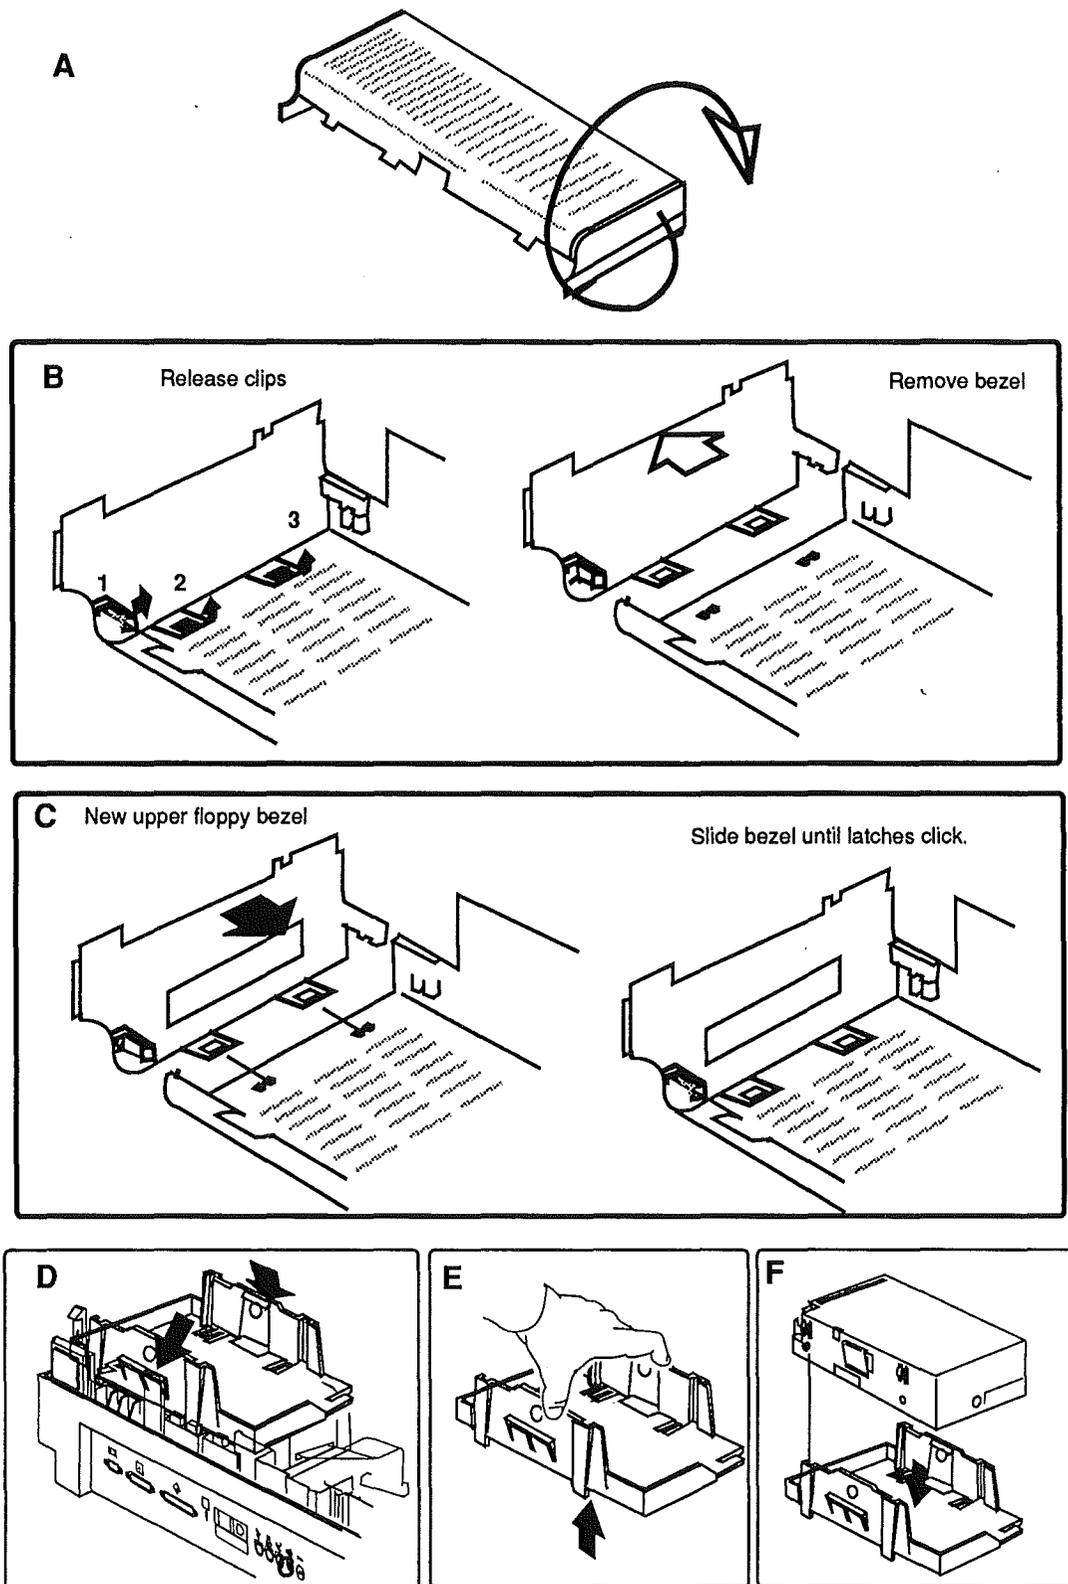

FIGURE 3
4. **Figures 3-A and 3-B.** Hold the rear cover with the underside facing up. Remove the standard bezel from the rear cover by releasing the three plastic snaps as shown. Release the snaps in the order indicated. Then pull the bezel away from the cover.
5. **Figure 3-C.** Install the new floppy bezel as shown.
6. **Figures 3-D and 3-E.** Release the floppy retainer from the subframe by pulling the two plastic tabs away from the retainer and then lifting the holder from the subframe.
7. **Figure 3-F.** Place the floppy drive mechanism into the floppy retainer.